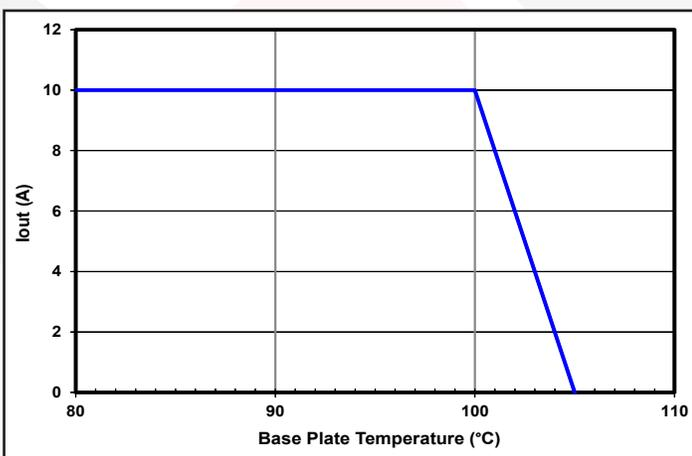

Figure 5: Maximum output current vs. base plate temperature (nominal input voltage).
**Thermal Considerations:** The maximum operating base-plate temperature,  $T_B$ , is 100 °C. Refer to the thermal derating curve, Figure 5, to see the available output current at baseplate temperatures below 100 °C.